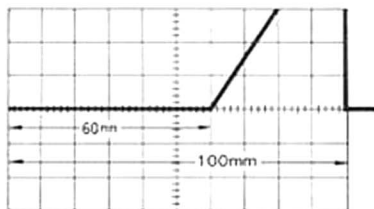

Fig. 2
5. Turn the trimming potentiometer VR33 so that the waveform of TPR is in Fig. 2.